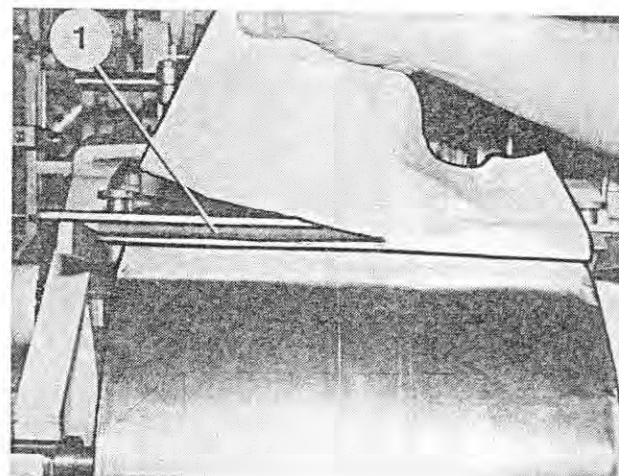

Fig. 98
12. Tear straight off the wrapper on the breaking plate (Figure 98/1) at right angles to the register hole or the print mark.